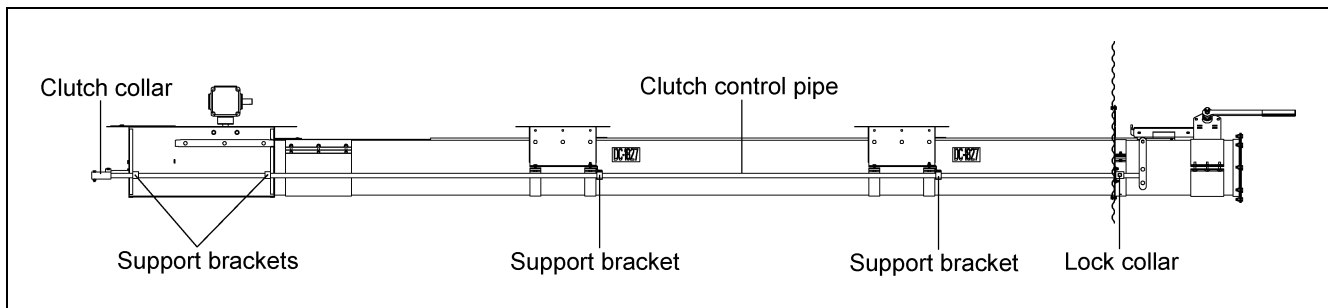
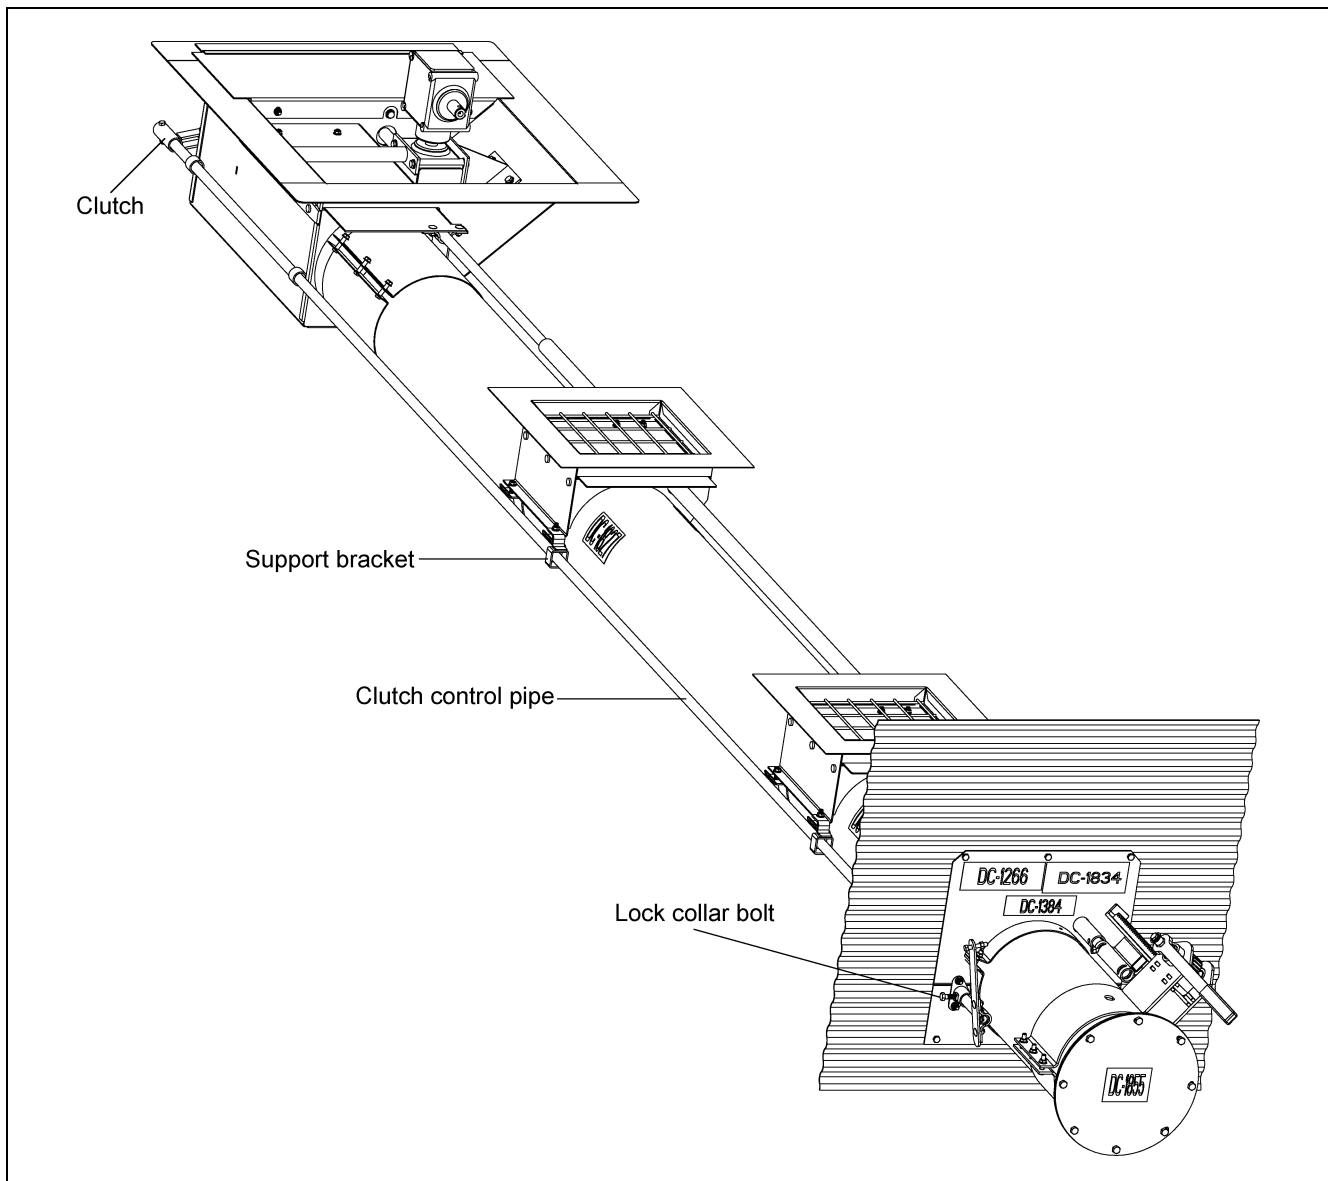

Figure 4S
Figure 4T
- Slide the clutch control pipe through the bin flange and the support brackets on the intermediate and center wells. Slide the clutch control pipe into clutch collar on the center well. (See Figure 4S and Figure 4T.)